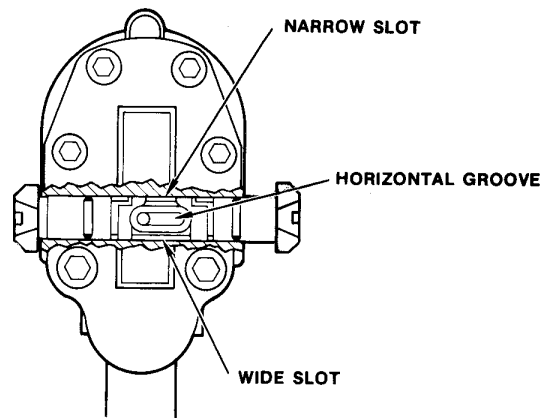

Figure 2.
1. See figure 2. The reversing spool must have the horizontal groove toward the idler shaft hole when assembled (with the narrower part of the relief above and the wider part below). Holding the spool in this position, install a greased o-ring in the **right groove**.
2. Slide the reversing spool (the end with no o-ring) into the main body from the right side as the wrench is shown in figure 2. Slide the spool only far enough in so the o-ring on the opposite end of the reversing spool can be installed.
Spools incorrectly installed.	Reverse spool upside down. Reassemble. See SERVICE INSTRUCTIONS, figure 2.